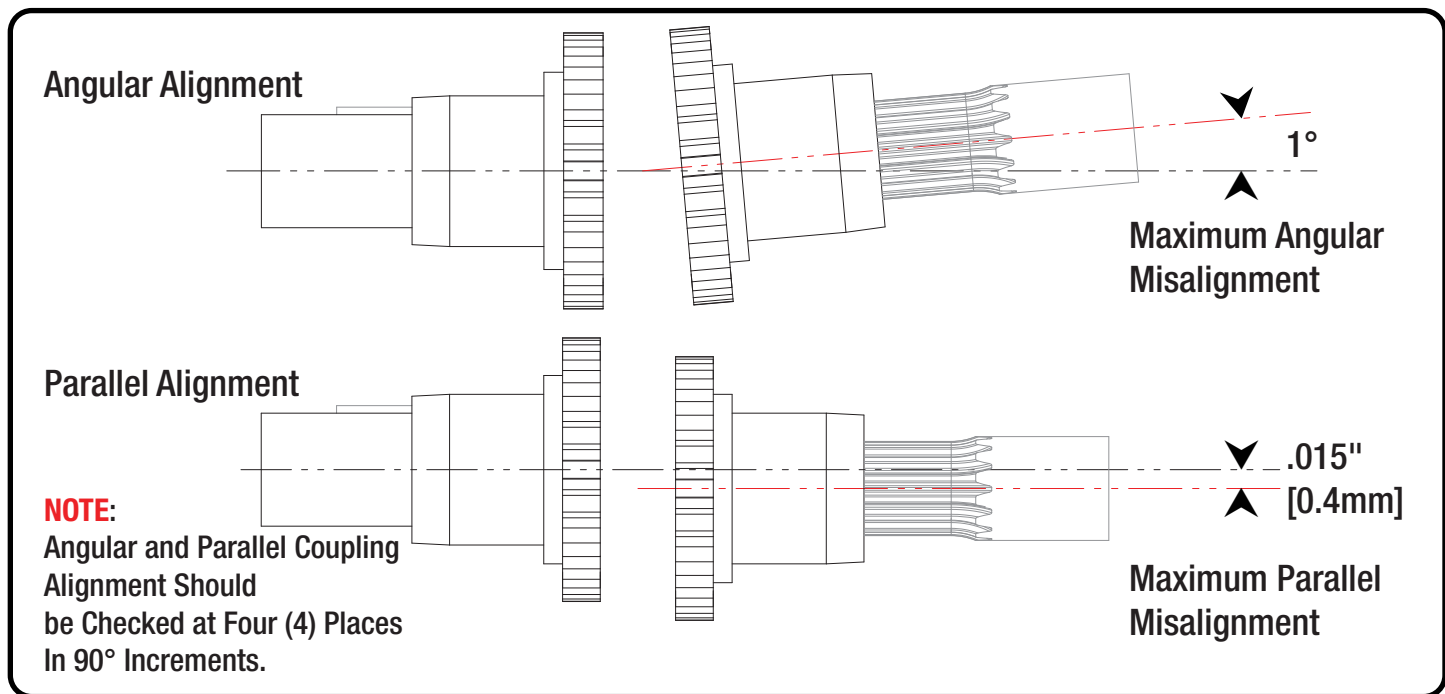

Figure 5
3. Misalignment of pump and driver shafts can be angular and/or parallel as shown in figures below. Maximum angular offset in the two coupling halves cannot exceed 1° (degree); parallel offset cannot exceed 0.015" [0.4mm]. Loosen mounting bolts of pump and driver, set proper alignment, and re-tighten bolts to proper torque rating provided by coupling manufacturer. See Figure 5 below.